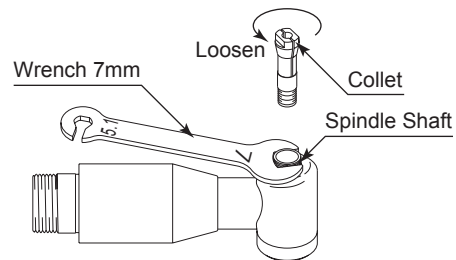

Fig. 4
- Remove the tool according to the section "8. CHANGING THE TOOL" procedure above. (Fig. 4).